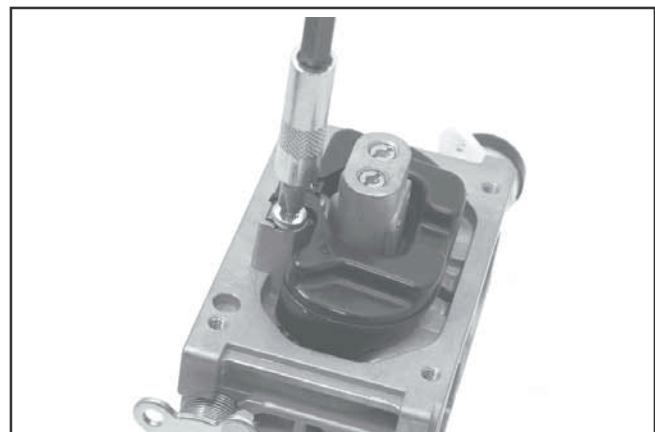

Figure 5-26. Installing Float Assembly.
13. Install the float and inlet needle down into the seat and carburetor body. Install the new pivot pin through the float hinge and secure with the new retaining screw. See Figure 5-26.